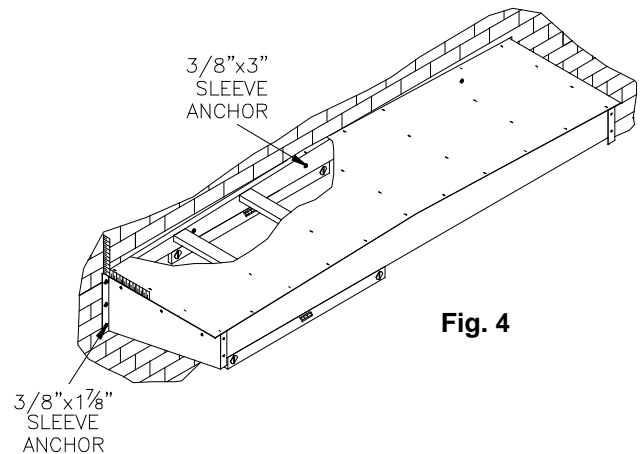

Fig. 4
- i. Place head frame on marks on wall (Fig. 4).